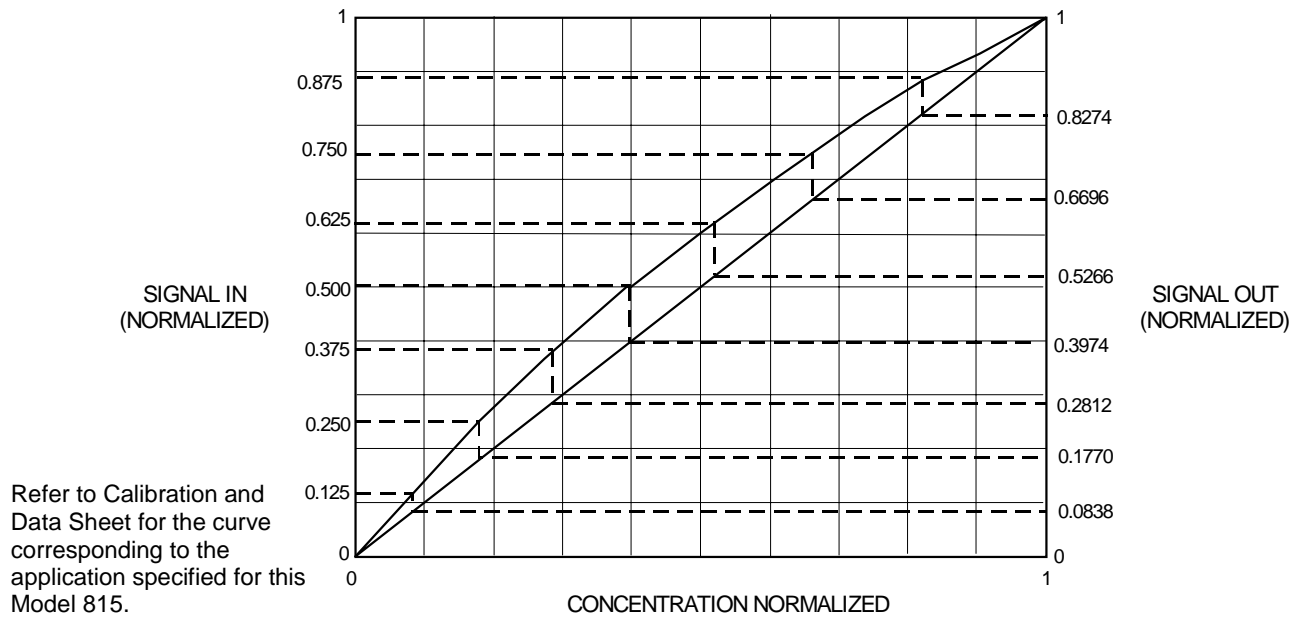

FIGURE 3-4. TYPICAL LINEARIZATION CURVE
To verify proper operation, connect different concentrations of span gas to the sample inlet and record the output signal or digital display (on analyzer door) reading. Plot these values versus concentration (typical curve shown in Figure 3-4). If the curve is linear, the linearizer for that range is properly calibrated.
A typical calibration curve showing the relationship between the non-linearized and linearized output is shown in Figure 3-4. The curve is a plot of signal output versus concentration. Examples of curves normalized for concentration and for recorder output are shown in Figure 3-4.
5. Normalize the readings, so that 100% fullscale is 1 and 0% is 0. Plot the concentration versus linearizer output on a graph similar to Figure 3-4.